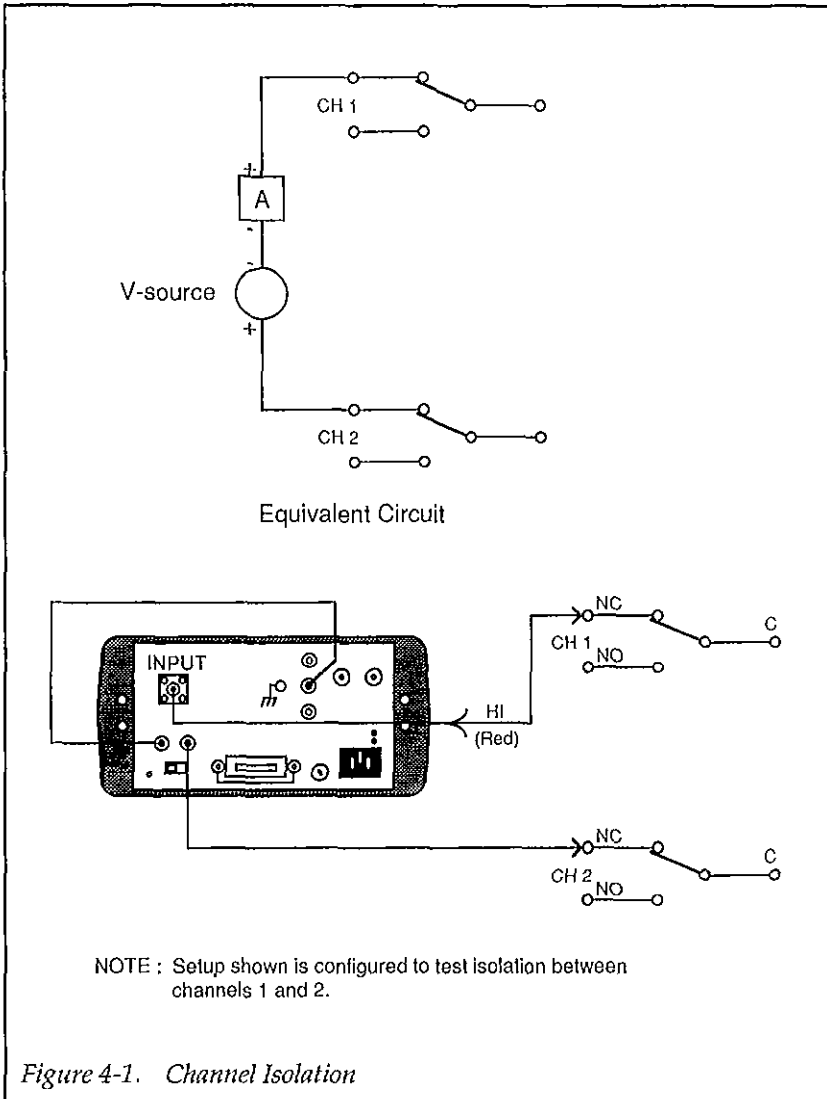

Figure 4-1. Channel Isolation
Referring to Figure 4-1, perform the following procedure to check channel isolation:
1. Using Table 4-2 to identify scanner card terminals, connect the Model 617 to the scanner card as shown in Figure 4-1.